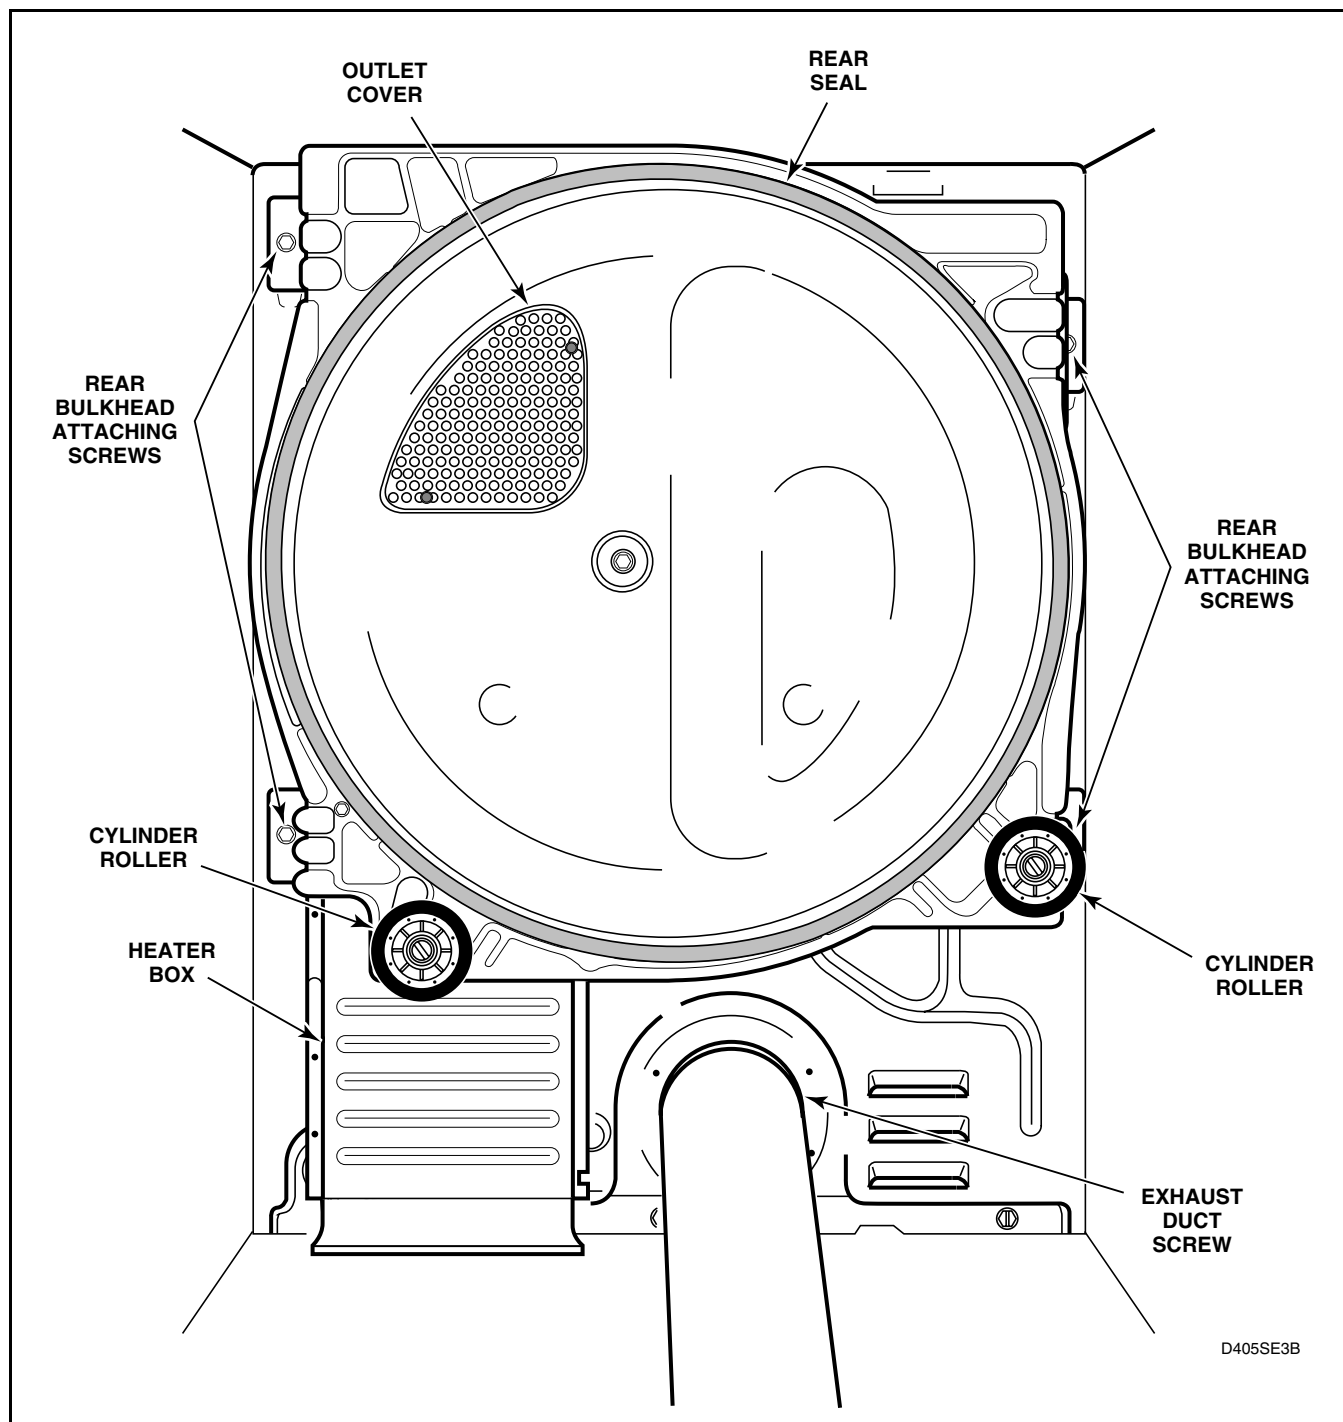

Figure 32
- Open door and remove two screws (if present) holding outlet cover to rear bulkhead. Refer to *Figure 32*.
- (4) While supporting bulkhead, remove the four screws holding rear bulkhead to dryer cabinet, then lift complete assembly out of dryer. Refer to *Figure 32*.